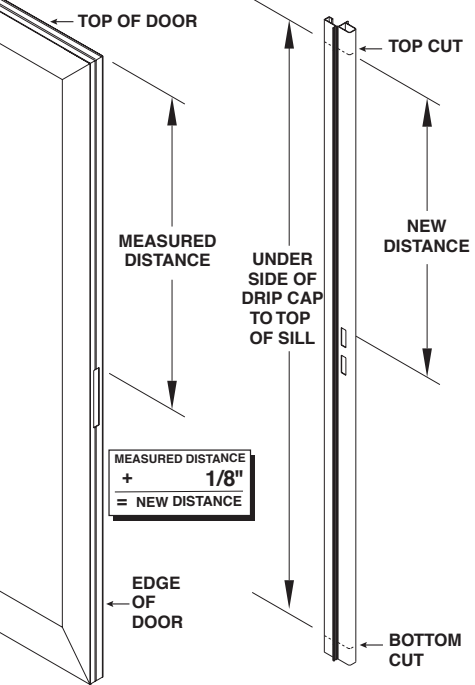

FIGURE 4
7. Notch the astragal top (Figures 4, 5) to clear the weatherstripping of the drip cap when closing the stationary door.